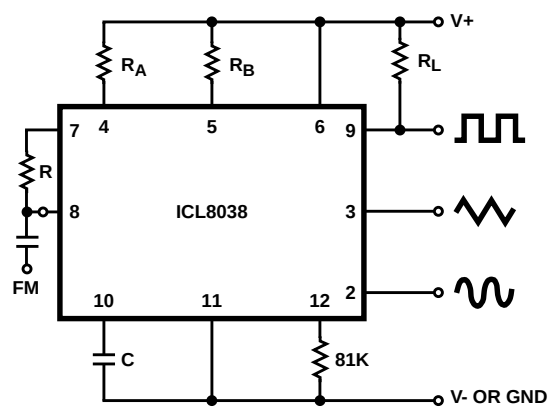

FIGURE 5A. CONNECTIONS FOR FREQUENCY MODULATION
- $V_{SUPPLY} = 20V$; R_A and $R_B = 10k\Omega$, $f \approx 10kHz$ nominal; can be extended 1000 to 1. See Figures 5A and 5B.
The frequency of the waveform generator is a direct function of the DC voltage at Terminal 8 (measured from $V+$). By altering this voltage, frequency modulation is performed. For small deviations (e.g. $\pm 10\%$) the modulating signal can be applied directly to pin 8, merely providing DC decoupling with a capacitor as shown in Figure 5A. An external resistor between pins 7 and 8 is not necessary, but it can be used to increase input impedance from about 8kΩ (pins 7 and 8 connected together), to about $(R + 8\text{k}\Omega)$.